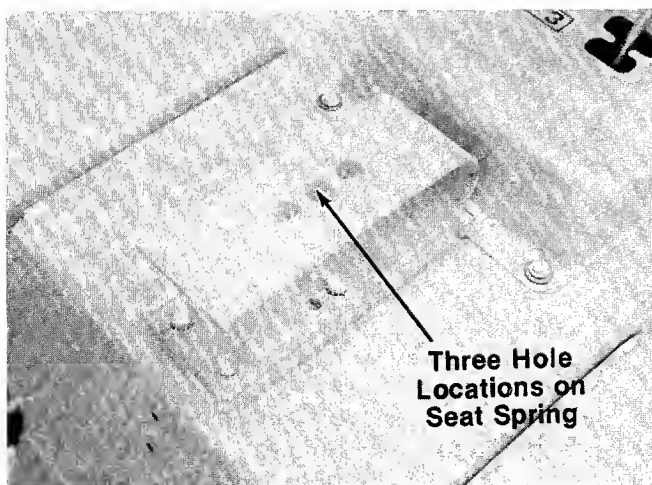

FIGURE 5.
5. The lawn tractor has three hole locations for mounting the seat (O). See figure 5.